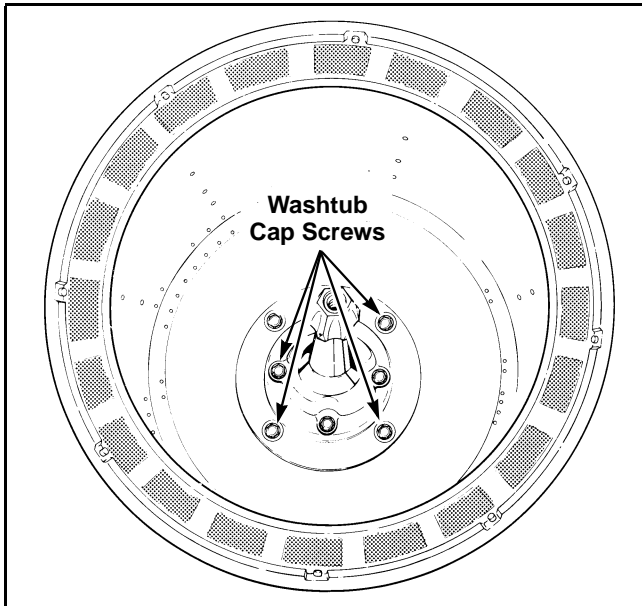

Figure 35
- e. Remove four cap screws and washers holding washtub to hub. Refer to *Figure 35*.